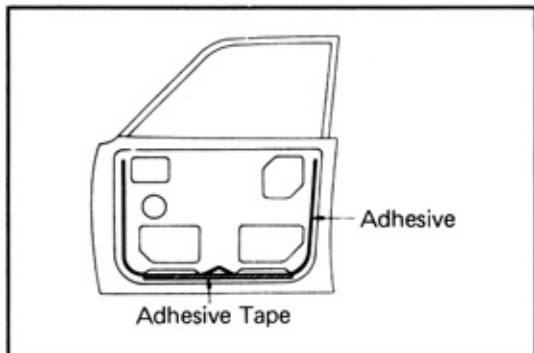

Fig. 2-27 Taping Location.
**Install the service hole cover with adhesive. Use the adhesive tape as illustrated in Fig. 2-27.**